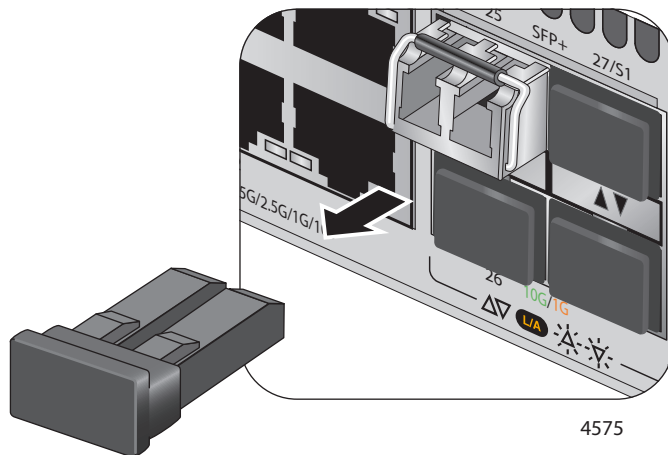

Figure 43. Removing the Dust Cover from an SFP or SFP+ Transceiver
6. Remove the dust cover from the transceiver, as shown in Figure 43.